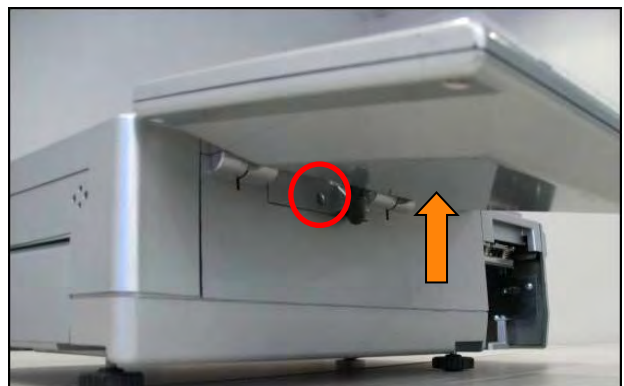

Figure 16. Remove Hinge Cover Screw
- c. Raise the keyboard and remove the screw securing the hinge cover. See Figures 16.